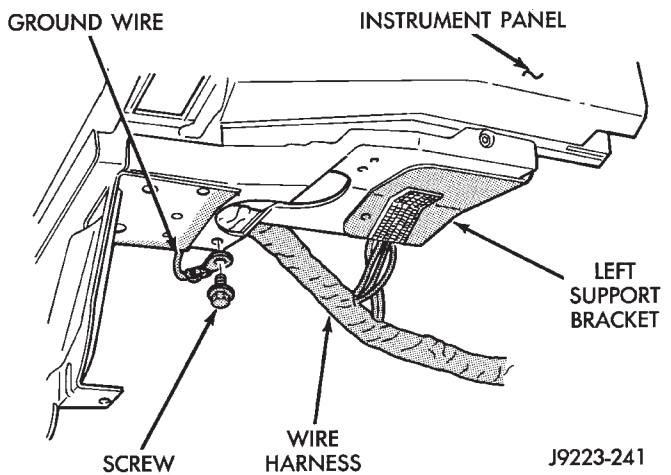

Fig. 16 Instrument Panel Ground Wire
(1) Position upper section of instrument panel at dash panel and supported by the I/P-to-cowl side panel screws.
(2) Connect wire harness connectors, side window defog tubes, heat/vent tube, and temperature control cable to the upper instrument panel.
(6) Remove the screw and the ground wire from the upper section of the instrument panel (Fig. 16).